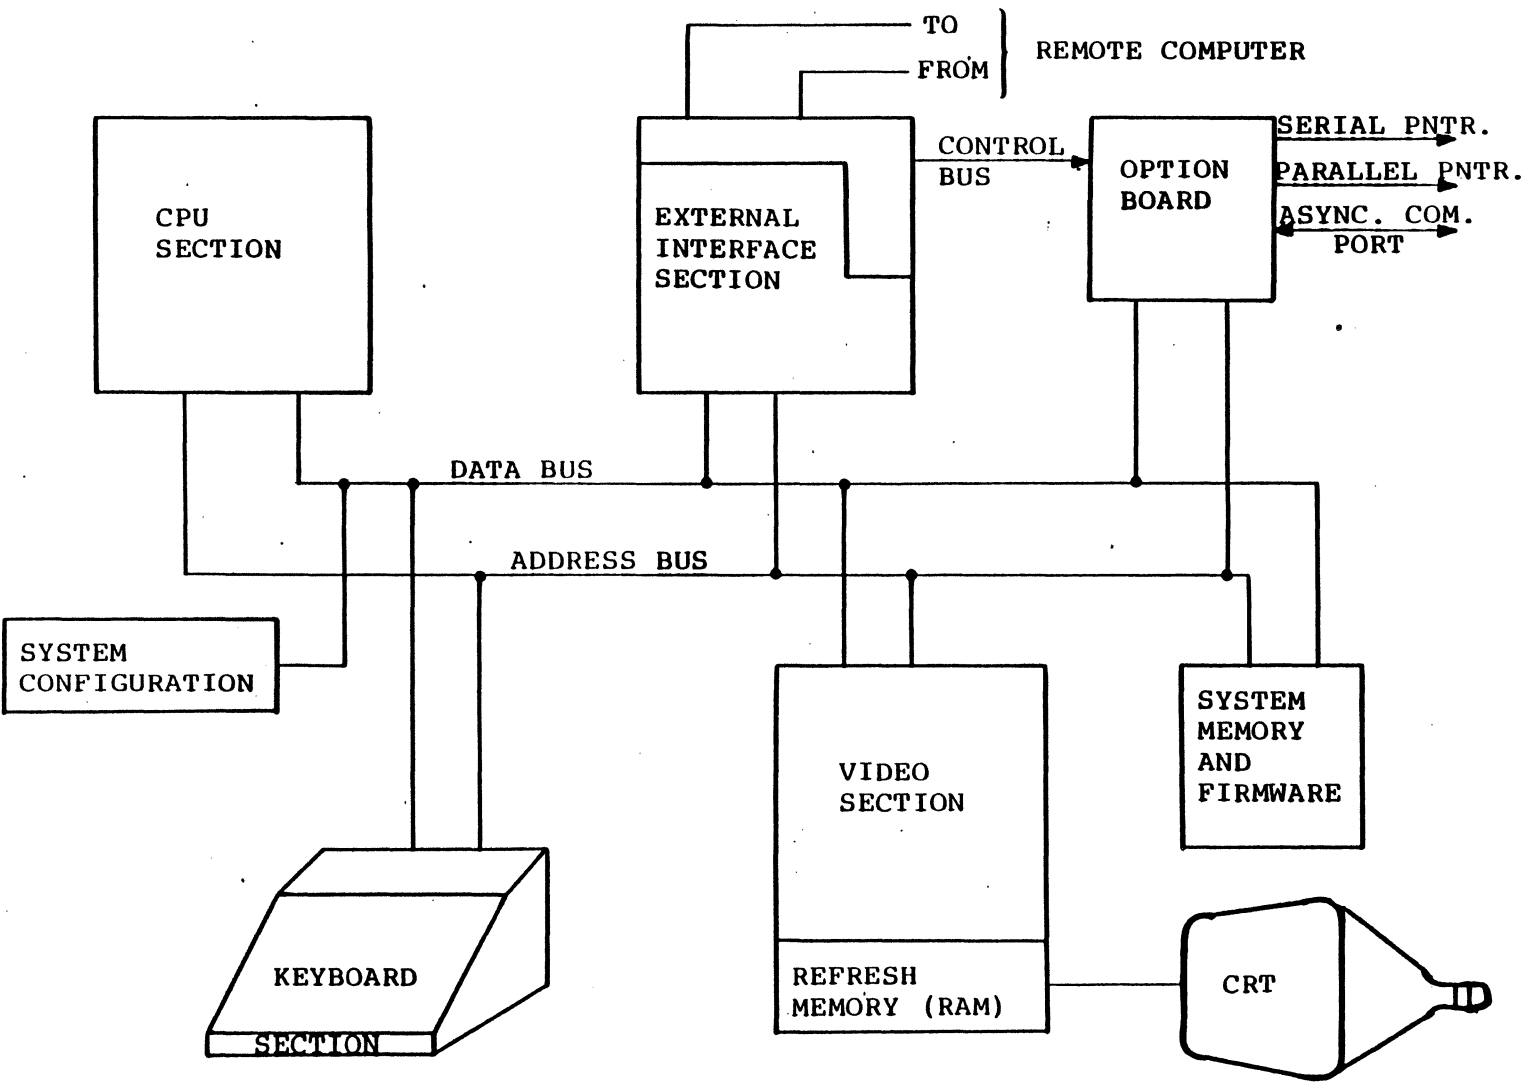

Figure 6-1. ADM-42 Simplified System Block Diagram
6.2 FUNCTIONAL DESCRIPTION (Figure 6-1)